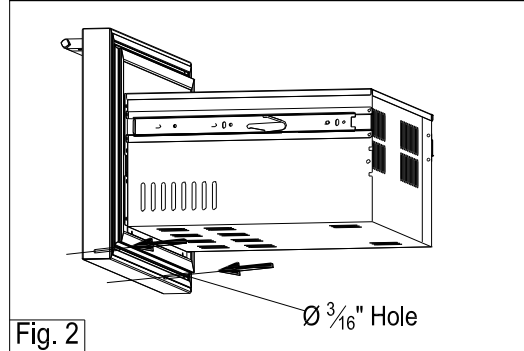

Fig. 2
- Drill the 2 holes shown by using a 3/16" drill bit on the bottom of drawer door front. (Fig. 2)